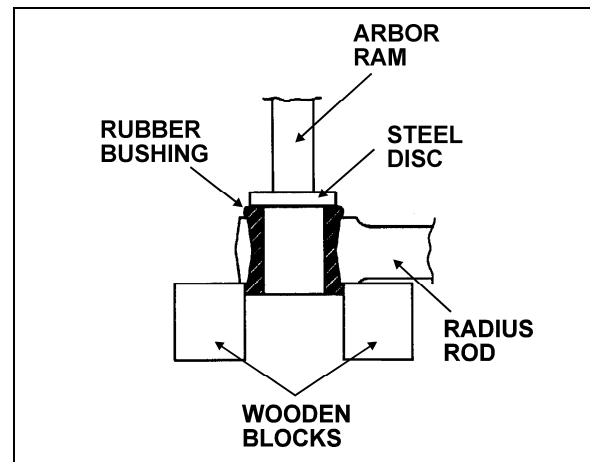

FIGURE 19: RADIUS ROD BUSHING REMOVAL 16011
1. Flatten the tab washer which secures the two retaining nuts (or bolts), then unscrew the nuts (or bolts) at each extremity of the radius rod (Fig. 19).
1. Safely support the radius rod as shown in figure 19.
2. Place a flat steel disc, slightly smaller than the outside diameter of the bushing (Fig. 19).